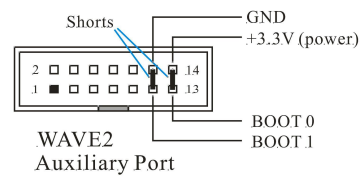

Fig. 4
- 1) Short BOOT0 (pin13 and pin14 on the Auxiliary Port) and BOOT1 (pin 11 and pin12 on the Auxiliary Port) respectively (see Fig. 4. **Note: use the provided ribbon cable to do the shorts. Do not do them directly on the auxiliary port pins since that could easily damage the connector**). This will make the MCU enter bootloader at next power up (you will see a blank screen after power is applied again and this is normal).